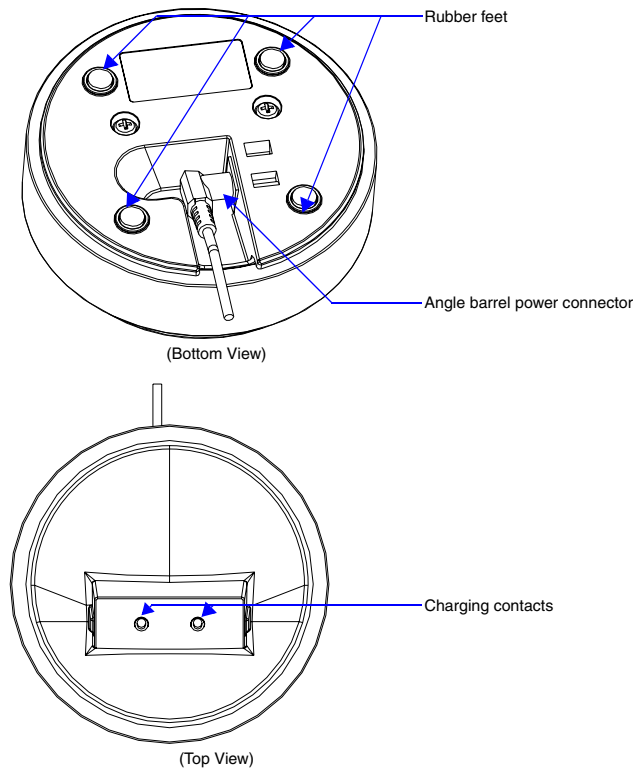

FIG. 6 Mio Remote Charging Base (Top and Bottom view)
1. Connect the terminal end of the power supply to the bottom external power port on the Mio remote charging base. See FIG. 6 for location.